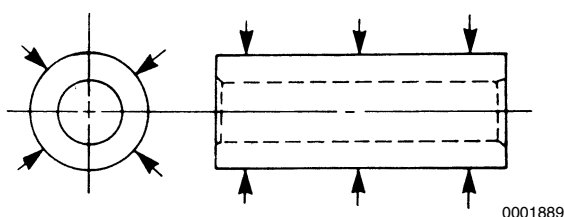

Figure 6-113
7. Measure the outside diameter of the wrist pin in three places and at 90° (**Figure 6-113**). See *Piston on page 6-15* for specifications. Record the measurements.